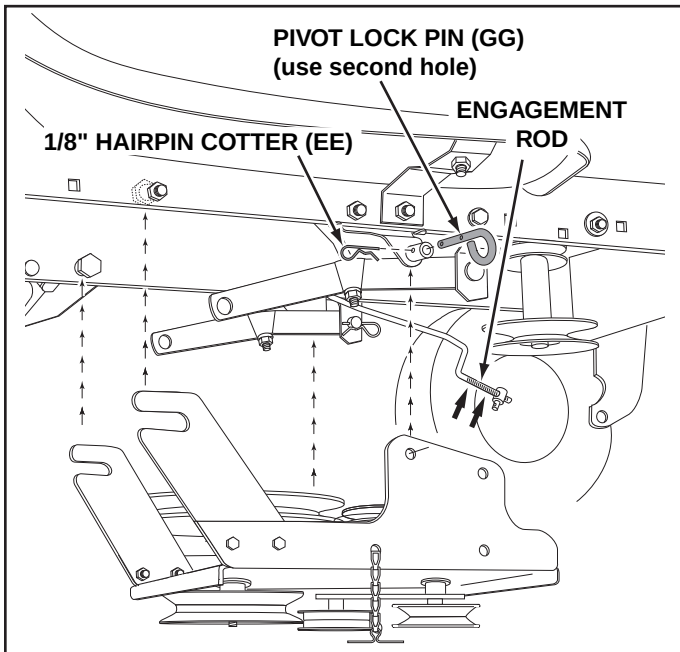

FIGURE 32
STEP 32: (SEE FIGURE 32)
- Attach the clutch/idler assembly to the tractor frame as follows. Hook the assembly's notched arms onto the two shoulder bolts you assembled to the inside of the tractor frame. Lift the front of the assembly and attach it to the R.H. and L.H. hanger brackets using two pivot lock pins (GG) and 1/8" hairpin cotters (EE).